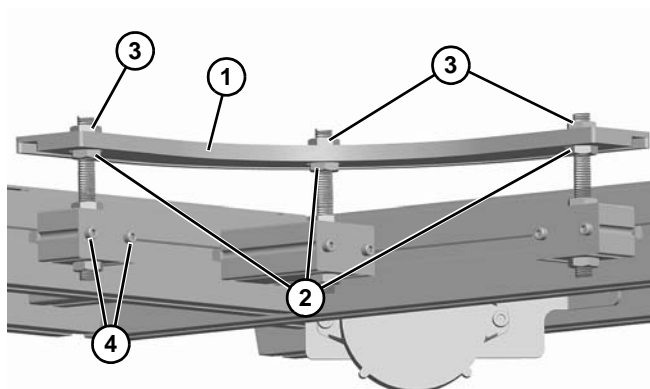
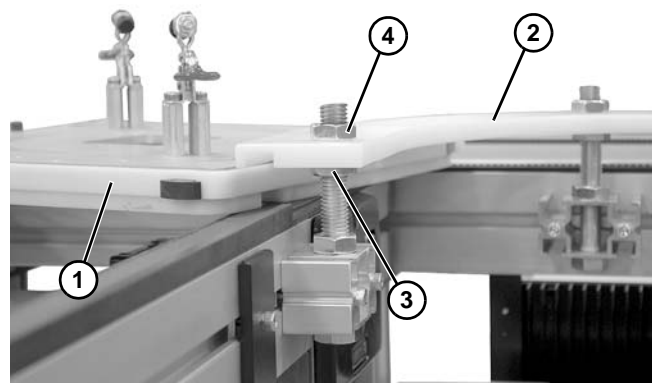

Figure 76
Figure 77
7. Install corner guide (**Figure 76, item 1**) onto studs. Position support assemblies so that the hex nuts (**Figure 76, item 2**) are in the circular openings in the bottom of the guide.
8. Thread jam nuts (**Figure 76, item 3**) onto studs, but do not tighten.
9. Finger tighten screws (**Figure 76, item 4**) on support assemblies.
1. Slide pallet (**Figure 77, item 1**) through entire length of corner guide (**Figure 77, item 2**) to make sure the pallet does not bind.
2. If the pallet binds, adjust hex nuts (**Figure 77, item 3**) up or down to raise or lower corner guide. If needed, loosen the screws (**Figure 76, item 4**) on the support assemblies, and move them left or right.
3. Tighten screws (**Figure 76, item 4**) on support assemblies and upper jam nuts (**Figure 77, item 4**).